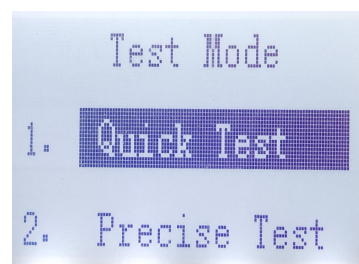

Figure 4
(4) Press the OK key to enter and press the triangle up or down button to select the test mode, as shown in Figure 4: